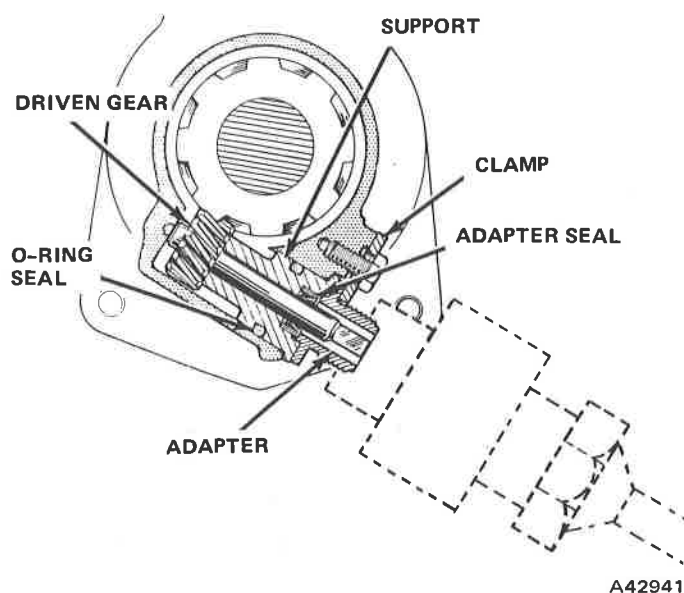

Fig. 6-41 Speedometer Assembly
- (1) Raise car on hoist.
- (2) Disconnect speedometer cable from governor speed switch.
- (3) Remove speedometer adapter clamp bolt and remove clamp, governor speed switch, speedometer adapter, speedometer support, and speedometer driven gear from speedometer (fig. 6-41).
- (1) Install new O-ring seal on speedometer support and new adapter oil seal in support (fig. 6-41).
- (2) Insert speedometer driven gear into support and install gear and guide into speedometer bore.
- (3) Install assembled adapter and governor speed switch into speedometer bore in overdrive. Be sure